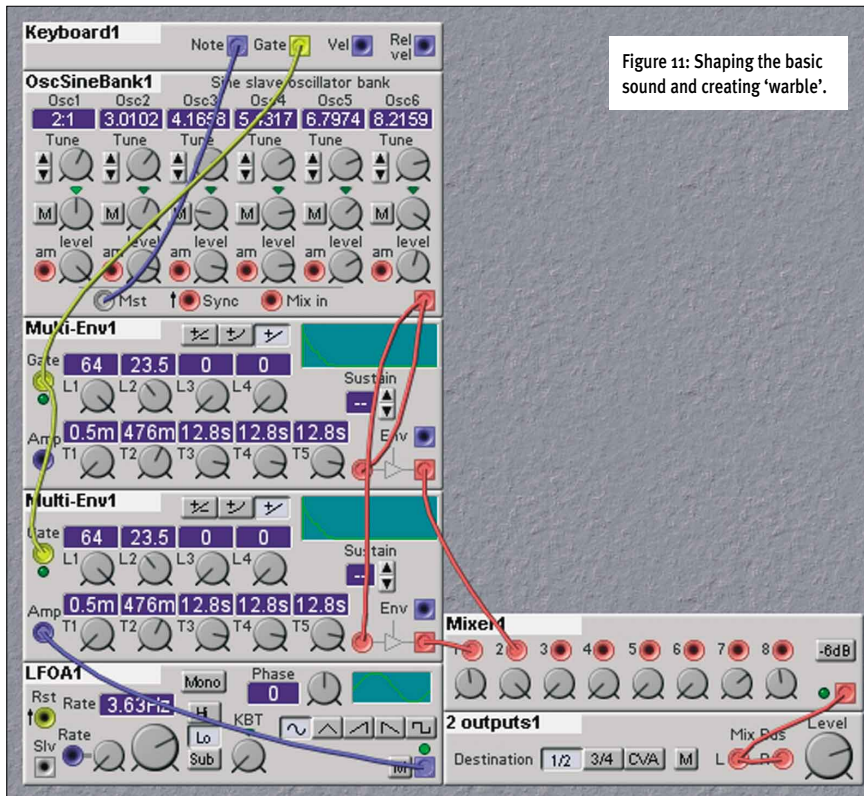

Figure 11: Shaping the basic sound and creating 'warble'.
- ▶ amplitude envelope of the whole sound rather than individual harmonics, but the effect is subjectively good (see Figure 11, above).
sound. I have generated the first of these with two-operator sine-wave FM synthesis, the output from which is passed through another envelope generator/amplifier with shorter decay/release times than the ones in Figure 11. The resulting sound is not particularly complex, but it is atonal, and